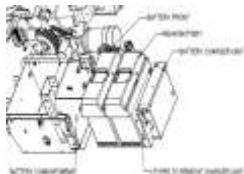

Figure 3
- a) Orient the battery lid as shown in Figure 3
- d) Orient the battery lid as shown in Figure 3.